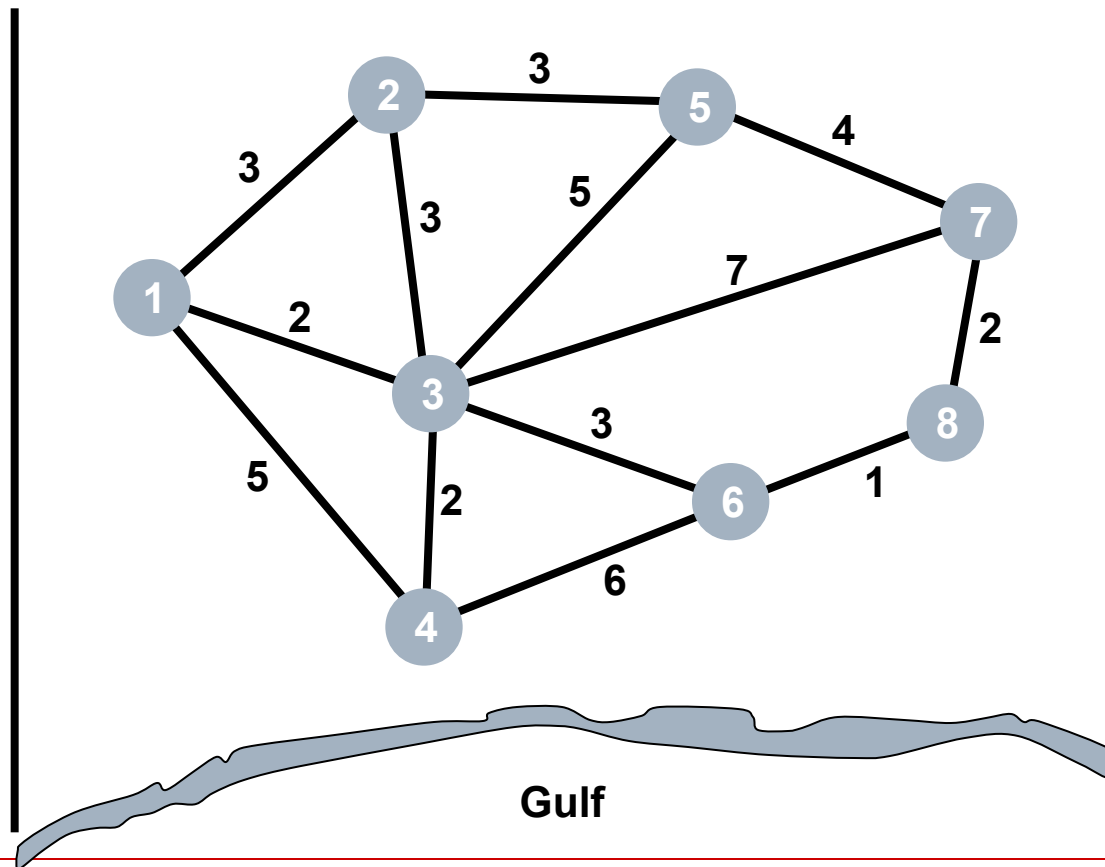

Figure 11.1
- There are eight houses in the project and the distance between them is shown in Figure 11.1.